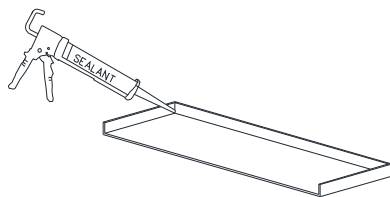

Figure 14:
- Apply sealant in all corners and seams of the sillpan (Figure 14).